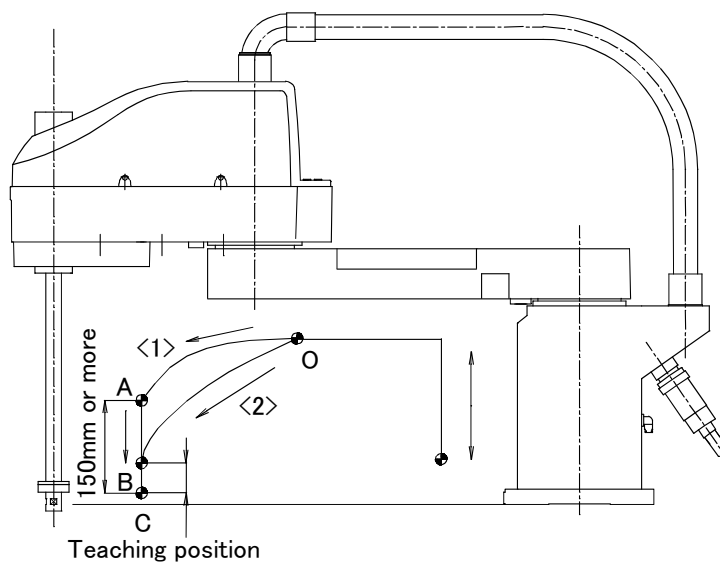

Fig.2-7 : Recommended path when positioning at the bottom edge of the Z axis
- 3) When positioning the work near the bottom edge of the Z axis, if no effectiveness is achieved in step <2> above, perform operation <1> (robot path: O → A → C). In the case of operation 2 (robot path: O → B → C), residual vibration may occur. (Refer to Fig. 2-7.)